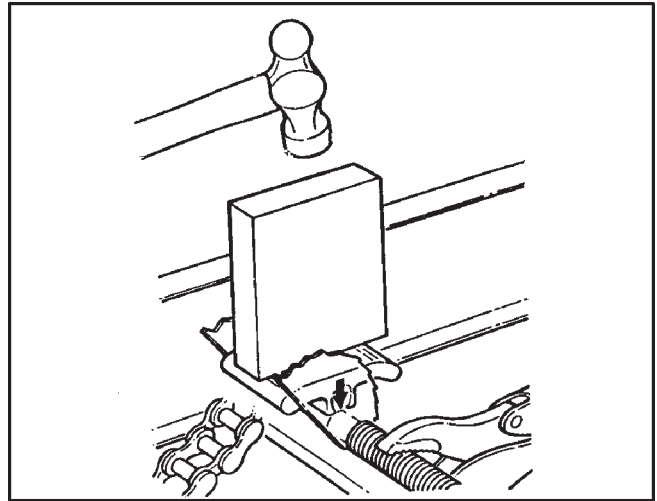

Figure 7-15. Hammering Slider Block into place.
5. Using a piece of wood (or similar material) pressed against the top of the slider block, carefully hammer the piece of wood so the slider block snaps onto the cam assembly shaft as shown in Figure 7-15.